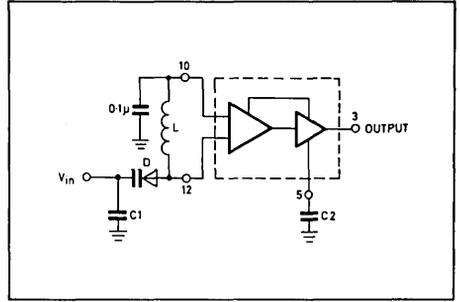

Fig. 5 The SP1648 operating in the voltage-controlled mode
When operating the oscillator in the voltage controlled mode (Figure 5), it should be noted that the cathode of the varactor diode (D) should be biased at least  $2 V_{BE}$  above  $V_{EE}$  ( $\approx 1.4 V$  for positive supply operation).
Capacitors (C1 and C2 of Figure 5) should be used to bypass the AGC point and the VCO input (varactor diode), guaranteeing only dc levels at these points.